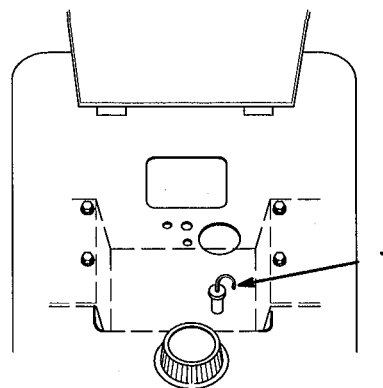

Figure 34
3. Clean around the transaxle dipstick (Fig. 34) so dirt cannot fall into the filler hole and damage the transaxle.
4. Pull out the dipstick and wipe the metal end clean (Fig. 34).
5. Slide the dipstick fully into the filler tube (Fig. 34). Pull the dipstick out and look at the metal end. When transaxle is cold oil should be at the "Full" line on the dipstick (Fig. 34).